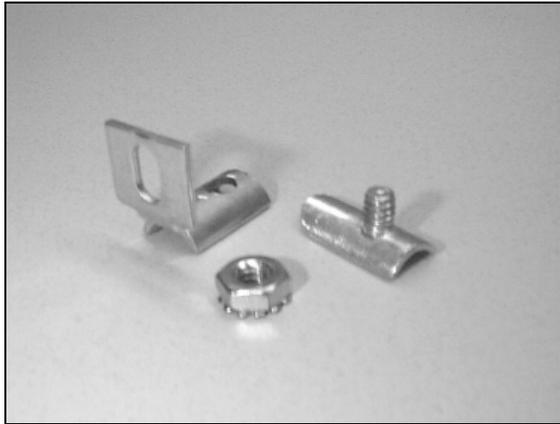

**Figure 6 – Attach a bond wire to the bond clamp.**
**2.6** Attach a bond wire to the bond clamp stud and fasten with a nut (Figure 6). Connect the bond wire to an approved ground as required by local practice.